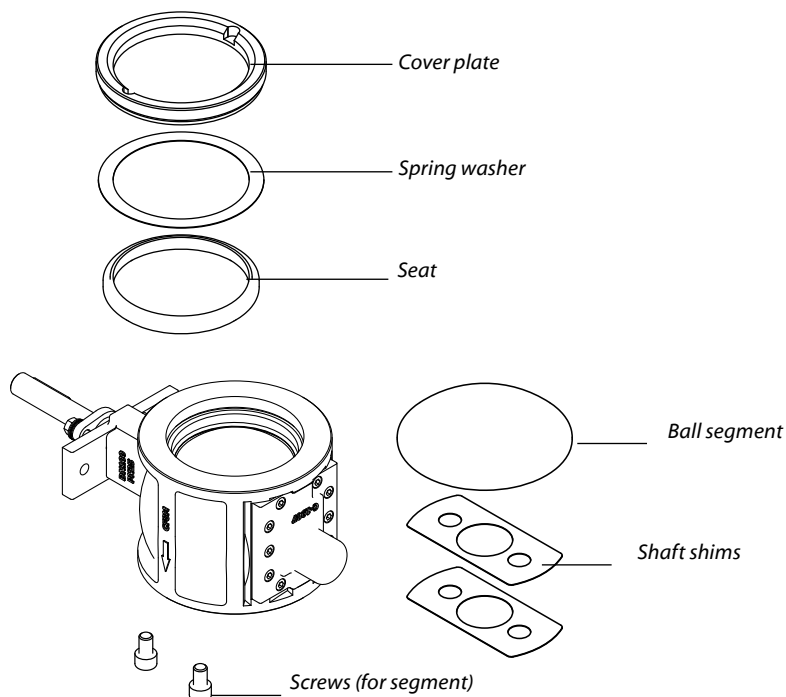
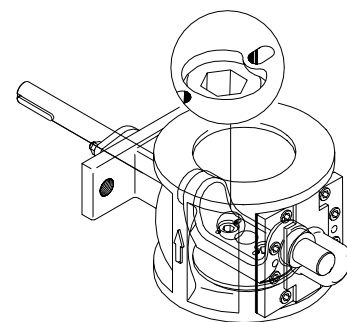

Fig.6-13.1 Assembly.
Fig.6-13.2 Centre marks.
1. Fit the shaft shims (→ Fig.6-13.1) to the shaft. The number of shaft shims to be mounted is according to the number of shims that was earlier mounted at the shaft.
Mount the ball segment (→ Fig.6-13.1) to the shaft.
2. Refit the screws (→ Fig.6-13.1) to the segment. Lock the bolts with a centre punch on the back of the shaft device. It is recommended to use the existing centre marks on the back for this (→ Fig.6-13.2).
4. Mount the new seat and the spring washer and cover plate (→ Fig.6-13.1).
5. Refit the screws (→ Fig.6-23/7) to the segment. Tighten crosswise. Lock the bolts with a centre punch on the back of the shaft device. It is recommended to use the existing centre marks on the back for this (→ Fig. 6.13.2).